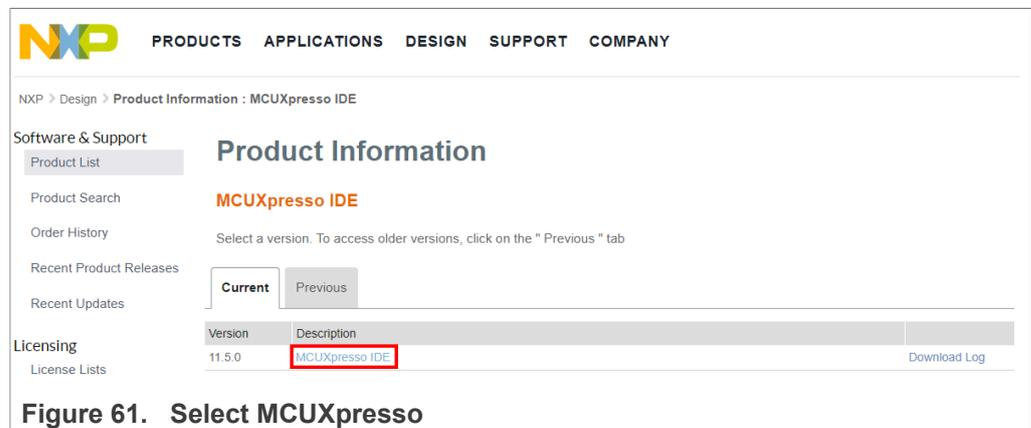

Figure 61. Select MCUXpresso
- Click on MCUXpresso IDE as shown in Figure 61: